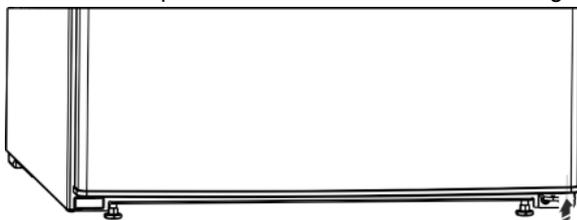

Fig. 6
► Insert the spacer Fig. 6 (13) back under the right-hand side of the door, as it is important for the stability of the appliance.